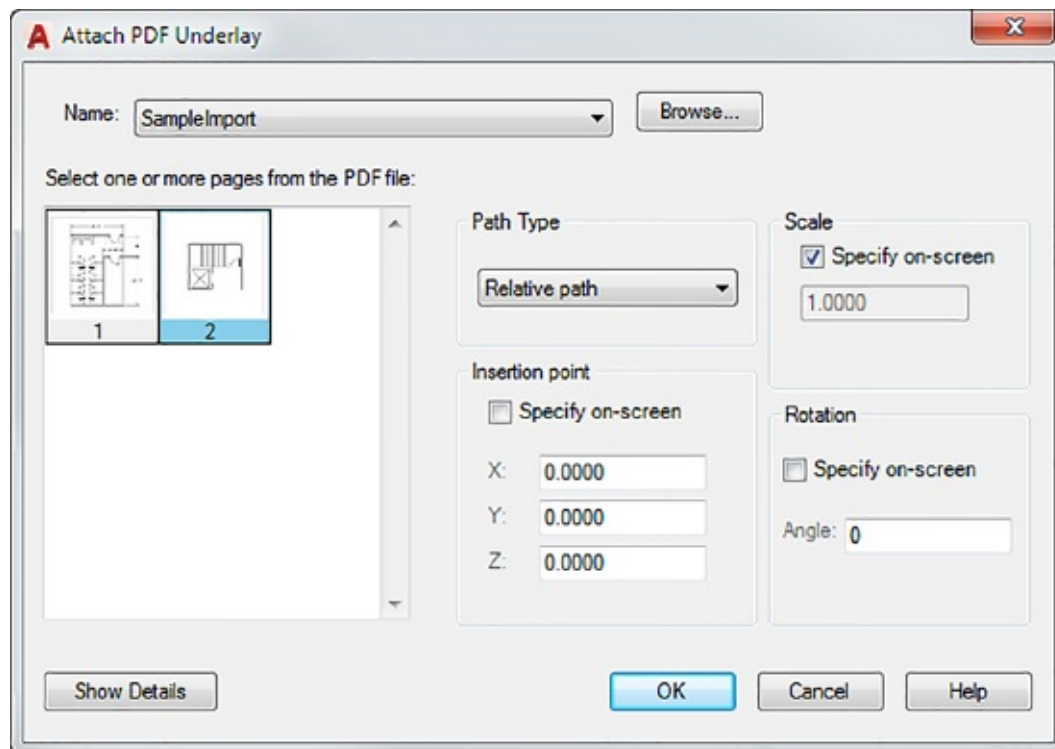

FIGURE 13.9 The Attach PDF Underlay dialog box
6. Click Open to open the Attach PDF Underlay dialog box (see Figure 13.9). Notice that you have an option to select a specific page of the PDF document if you are opening a multipage PDF.